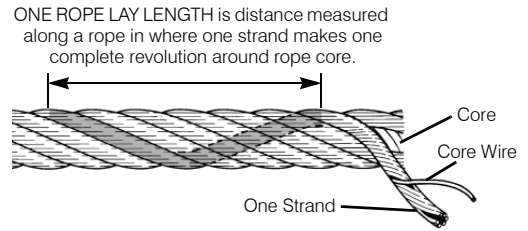

Figure 6-4 Rope Lay Length
- Six randomly distributed broken outer wires in one rope lay length or three broken outside wires in one strand of one rope lay length. Refer to Figure 6-4.